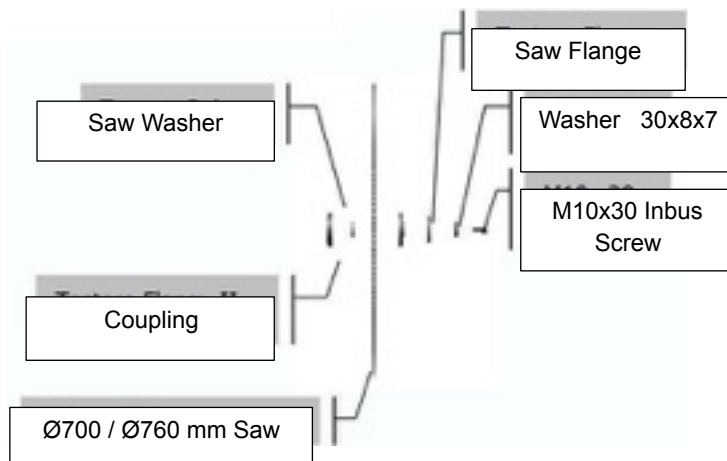

Figure 2 : Open The Control Board And The Side Cover Plate.
- 8.8.1. Cut off the machine's electrical and air connection. Open the control board with the front cover lock on the chassis, remove the side cover sheet metal. (Figure 2, 3)